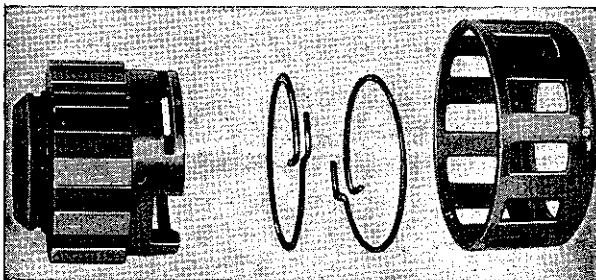
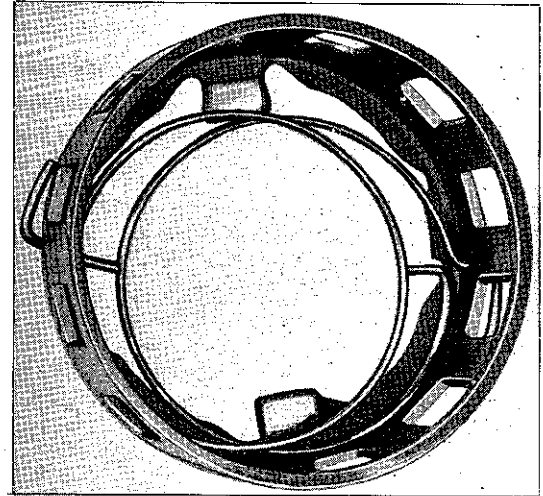

FIG. 216--FREEWHEELING CAM RETAINER
FIG. 217--FREEWHEELING CAM RETAINER WITH SPRINGS ASSEMBLED
**p.** Examine the freewheeling cam and retainer assembly thoroughly before disassembly. See Fig. 216 and 217. The roller retainer springs (19) place a tension on cam (21), holding the cam in a counter-clockwise position when viewing the cam from the rear. Also, the high part of the ramps of the cam are under the roller openings of the retainer, forcing the rollers outward. The hooked ends of the two retainer springs extend to the right (still
e. Use care when assembling the freewheeling cam and retainer assembly. See Fig. 216 and 217 and Par. K-20p. To reassemble, hook the two springs into the retainer, making sure the hooked end points to the right (Fig. 217). Place the retainer on the bench with the open end (rear) up. Make sure the springs are not crossed. Take hold of the free end of the rear spring and stretch it up clear of the retainer, hook the end of the spring into the rear hole in the cam, and let the cam down into the retainer. Turn the assembly over with the front end up. Work the installed spring over the hub of the cam. Hook the free end of the second spring into its hole in the cam. Obtain clearance to do this by holding the cam down (so it does not pilot into the retainer) and to the side of the retainer opposite the hole. After the spring is hooked, work it down over the cam hub.